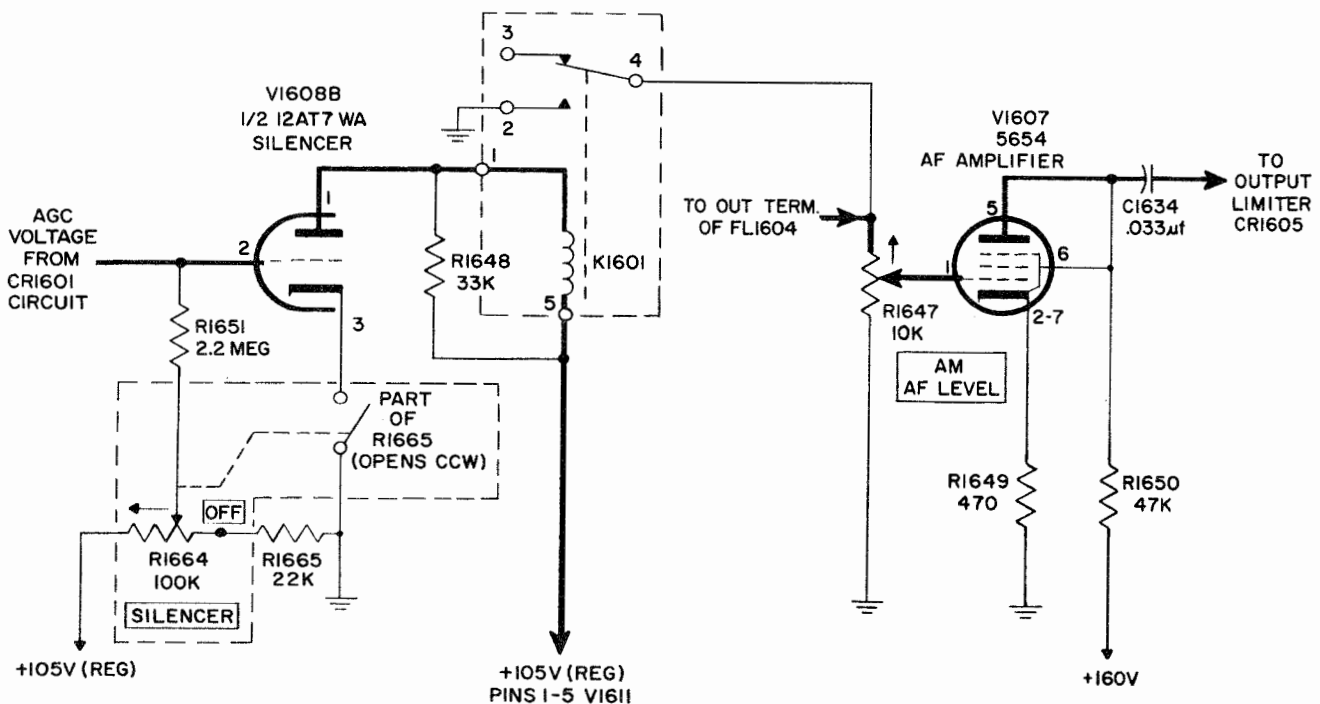

Figure 4-22. Silencer V1608B and AF Amplifier V1607, Simplified Schematic Diagram
e. SILENCER CIRCUIT. (See figure 4-22.)—The silencer, or squelch, circuit, used principally for voice (A3) reception, cuts off receiver output when no signal is being received. The grid of silencer tube V1608B has two voltage sources—one, negative, from point B
AF amplifier V1607 (figure 4-22) receives from audio filter FL1604 (figure 6-18) an input developed across AM AF LEVEL control R1647, with the amplitude controlled by potentiometer R1647. The amplifier uses a pentode tube connected for triode operation. Its output is developed across plate load resistor R1650 and is coupled to the output-limiter circuit through capacitor C1634.